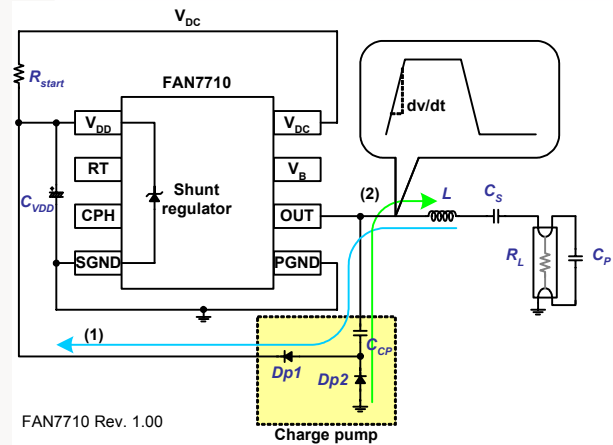

Figure 27. A Local Power Supply for V_{DD} Using a Charge Pump Circuit
When V_{DD} is lower than $V_{DDTH(ST+)}$, it consumes very little current, I_{ST} , making it possible to supply current to the V_{DD} pin using a resistor with high resistance (R_{start} in Figure 27). Once UVLO is released, the current consumption is increased and the whole circuit is operated, which requires additional power supply for stable operation. The supply must deliver at least several mA. A charge pump circuit is a cost-effective method to create an additional power supply and allows C_P to be used to reduce the EMI.
As presented in Figure 27; when OUT is high, the inductor current and C_{CP} create an output transition with the slope of dv/dt . The rising edge of OUT charges C_{CP} . At that time, the current that flows through C_{CP} is:
When OUT is changing from HIGH to LOW state, C_{CP} is discharged through Dp2, shown as path (2) in Figure 27. These charging/discharging operations are continued until FAN7710 is halted by shutdown operation. The charging current, I , must be large enough to supply the operating current of FAN7710.